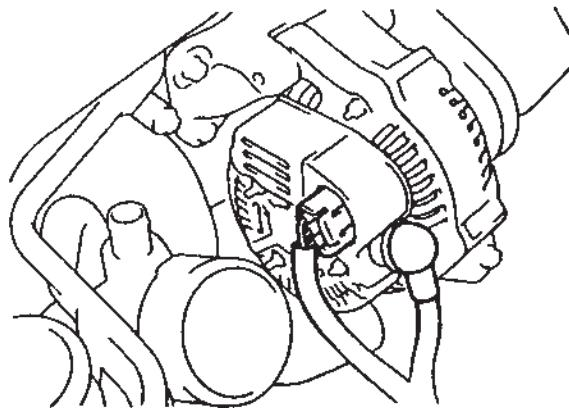

Figure 11-5
1. Visually check the wiring for damage, proper routing and for loose terminals (**Figure 11-5**).